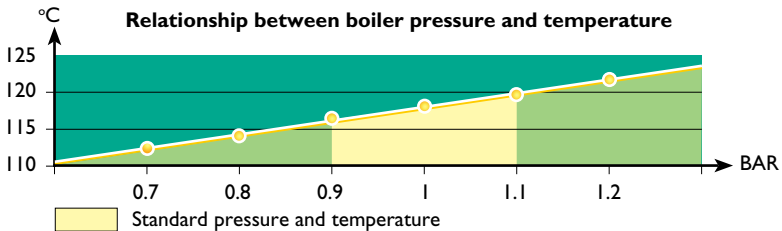

Fig. 01
- Boiler pressure is directly related to water temperature (fig. 01).